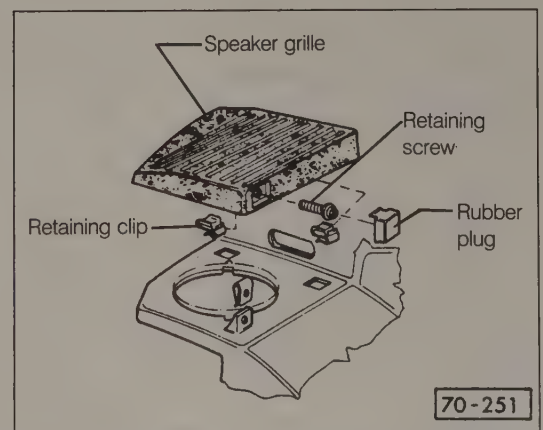

Fig. 4-10. Exploded view of speaker grille mounting hardware. Jetta grille is shown, Golf and GTI are similar.
4. Remove the speaker grilles and, if applicable, the speakers. Remove the grille retaining screw and slide the grille toward the rear of the car. See Fig. 4-10. On Golfs and GTIs, the screw is covered by a full-length trim piece.
Speakers can be installed in the instrument panel in all cars, in the rear hat shelf on Jettas, and in the hat shelf extension on Golf and GTI models. See Fig. 4-10 above when removing the front speaker grilles.